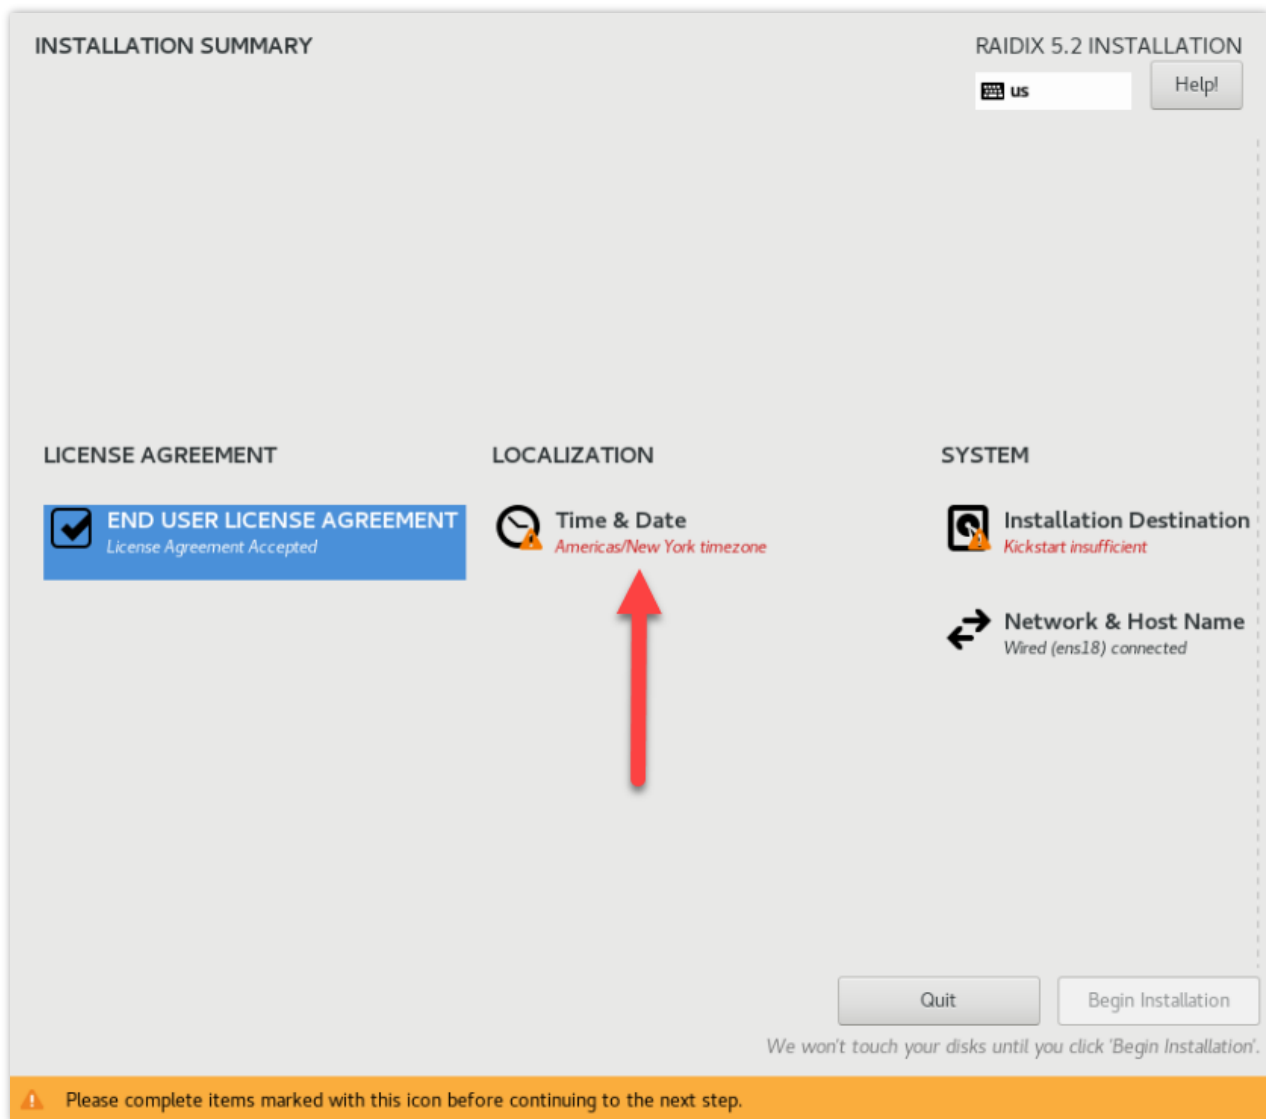

Figure 4. Front page: selecting LOCALIZATION
1. On the *INSTALLATION SUMMARY* page, click **Time & Date** (Figure 4).